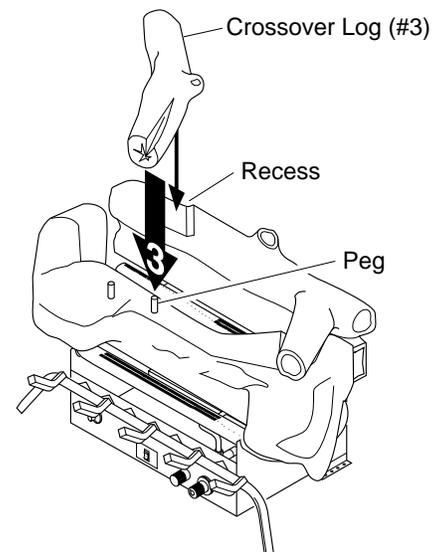

Figure 28 - Installing Crossover Log (#3)
3. Place crossover log (#3) onto the pin (right) on middle log (#1) and into the recess of the back log (#2) (see Figure 28).